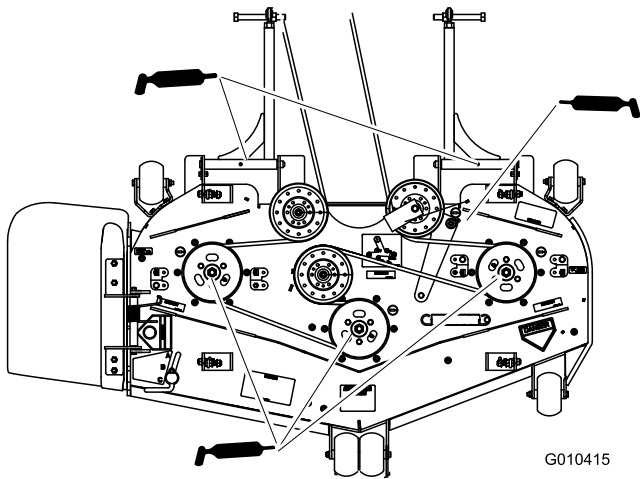

Figure 40
6. Grease the three spindle bearings until grease comes out the lower seals (Figure 40).
7. Grease the idler arm on the mower deck (Figure 40).
8. Grease the fittings on the push arms (Figure 40).